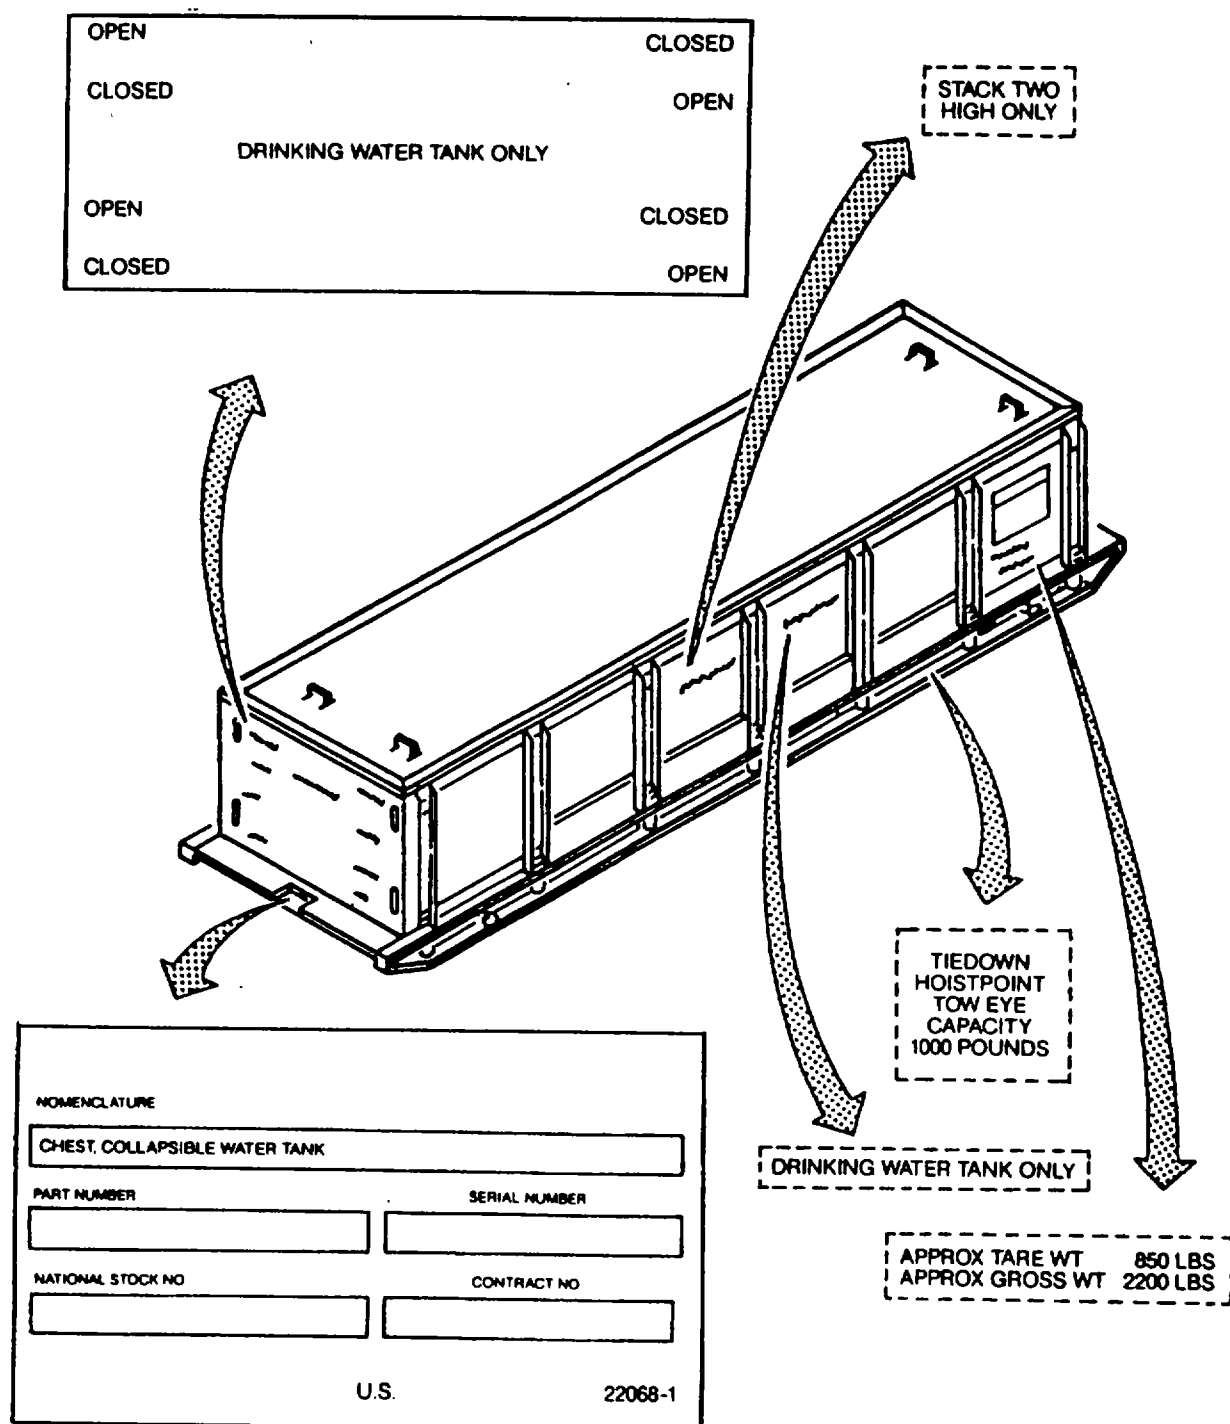

Figure 2-10. Decals and Instruction Plates (Typical)
- e. Water Tank Chest. Refer to Figure 2-10 for decals and instruction plates typical of those found on the tank chest.